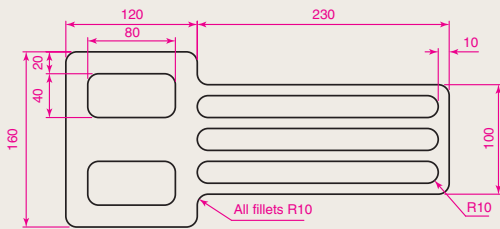

Fig. 5.46 Exercise 1
1. Construct the drawing in Fig. 5.46. All parts are plines of width = 0.7 with corners filleted R10. The long strips have been constructed using **Circle**, **Polyline**, **Trim** and **Polyline Edit**. Construct one strip and then copy it using **Copy**.